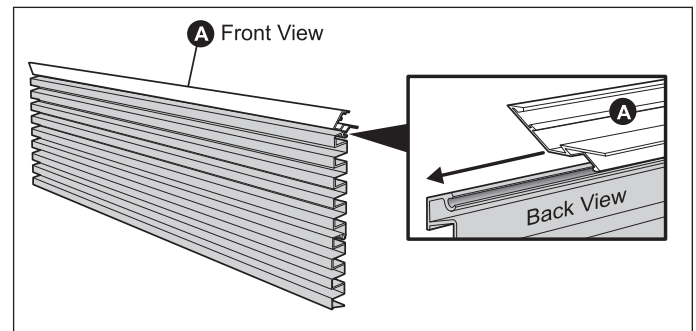

Figure 2-12.
3. Slide grill assembly into top collar trim (A). Tape together to prevent from sliding. (See Figure 2-12).